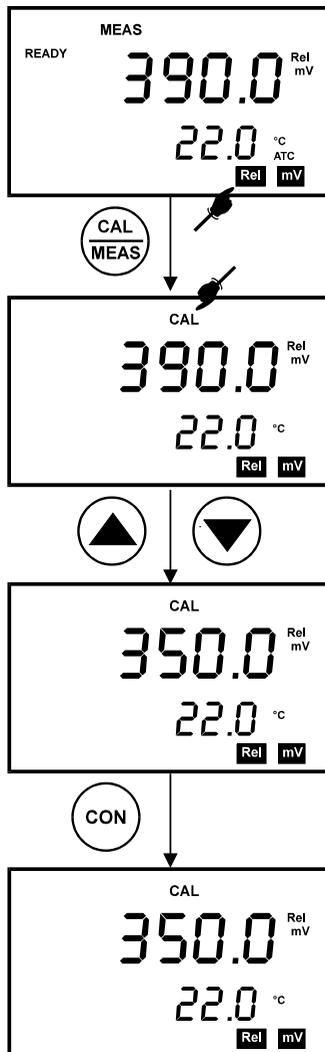

Figure 20: Relative mV calibration (For pH 100 only)
4. With the ▲ and ▼ keys, adjust the displayed absolute mV value to the base value required e.g. 350.0 mV (Figure 20).